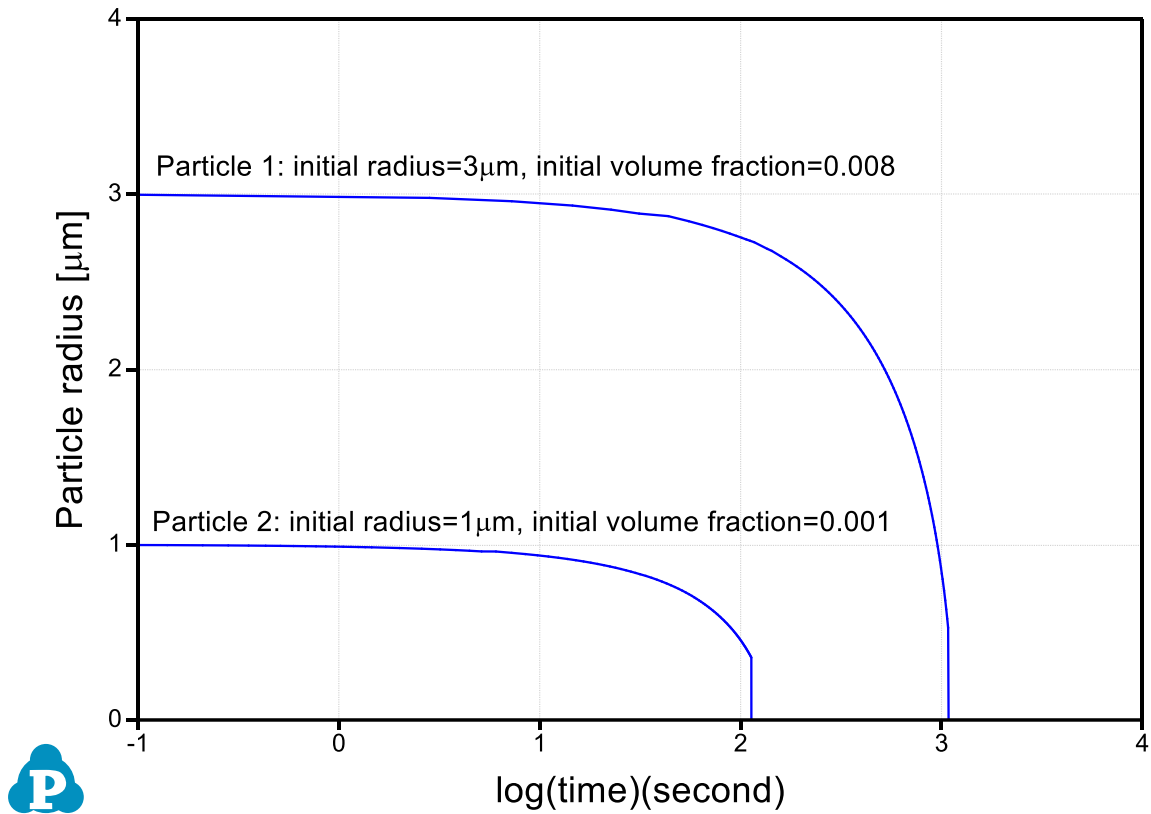

Figure 4.13.2: Simulation result of particle-size evolution.
- The calculated particle dissolution with time is shown in Figure 4.13.2. User can modify it by changing the title, the scale and so on from the Property Window. More information can be found in Pandat User’s Guide 2.3.1.